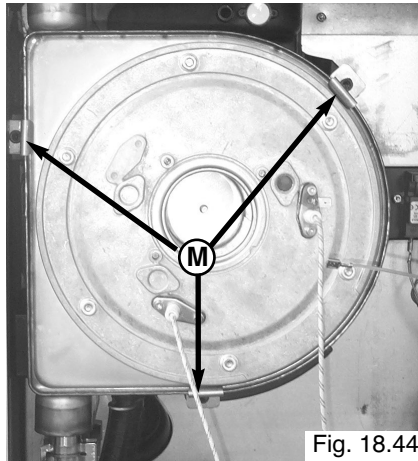

Fig. 18.44
3. Unscrew the three bolts "M" from the main heat exchanger (Fig. 18.44);